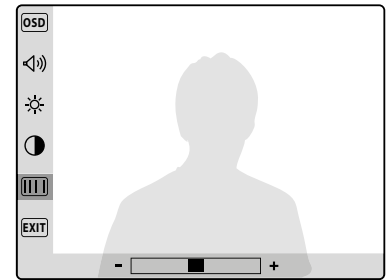

Fig. 3C
- The picture hue (8 levels Fig.3c);